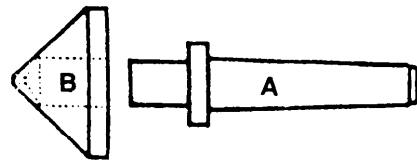

Figure 6-27.—Pipe center.
For machining hollow cylinders, such as pipe, use a bull-nosed center called a pipe center. Figure 6-27 shows its construction. The taper shank (A) fits into the head and tail spindles in the same manner as the lathe centers. The conical disk (B) revolves freely on the collared end. Different size disks are supplied to accommodate various ranges of pipe sizes.